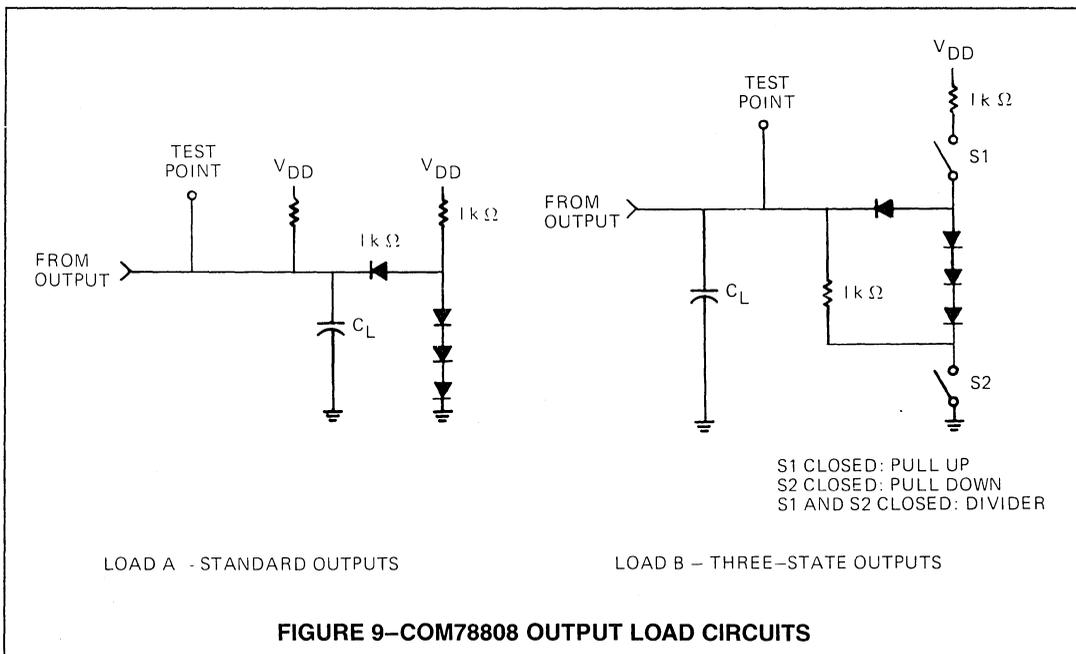

FIGURE 9—COM78808 OUTPUT LOAD CIRCUITS
¹Refer to Figure 9 for the load circuits used with these measurements.
³Total rise time depends on internal delay plus the pullup delay introduced by the external resistor being used. The t_{ID} parameter can be calculated by the following: t_{ID} = 500 + RC_L, where R = value of the resistor that connects to capacitor C_L in load A, Figure 9.
⁴Total rise time depends on internal delay plus the pullup delay introduced by the external resistor being used. The t_{RDH} parameter can be calculated by the following: t_{RDH} = 75 + RC_L, where R = value of the resistor that connects to capacitor C_L in load A, Figure 9.
- REFER TO FIGURE 9. A = S1 CLOSED, B = S2 CLOSED, C = S1 AND S2 CLOSED.